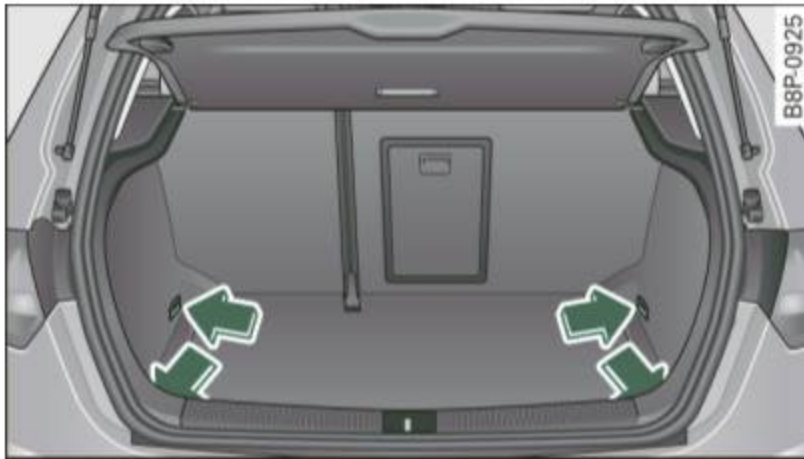

Fig. 81 Luggage compartment: fastening eyes
- Use the fastening eyes to secure your cargo properly ⇒ fig. 81 -arrows-.